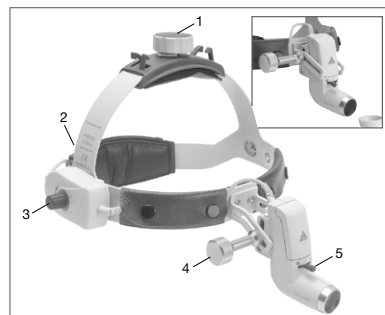

Fig. 2 Headband Professional L (see tall fig.)
Adjustment of the **headband Professional L** (see Fig. 2): To adjust for the head size, the headband can be widened or tightened by turning the turnbuckles at the top (1) and the back. (2).
Selecting viewing angle and field of view (Fig. 2)